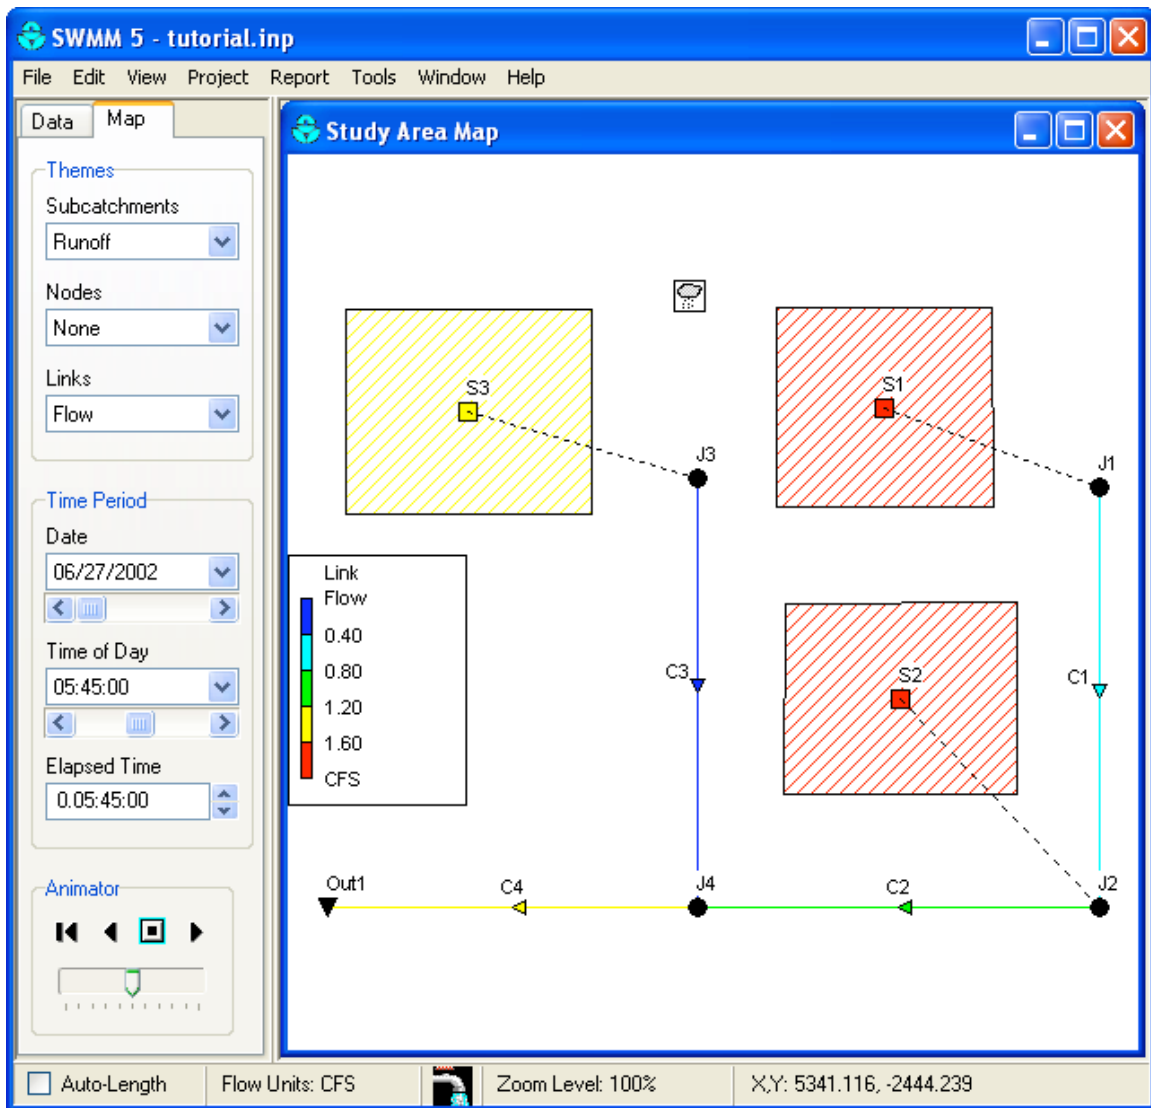

Figure 2-11. Example of viewing color-coded results on the Study Area Map.
- The Node Flooding Summary table (not shown in Figure 2-11) indicates there was internal flooding in the system at node *J2*⁹.
- The Conduit Surge Summary table (also not shown in Figure 2-11) shows that Conduit *C2*, just downstream of node *J2*, was surcharged and therefore appears to be slightly undersized.
2. Select the variables to view for Subcatchments, Nodes, and Links from the dropdown combo boxes appearing in the Themes panel. In Figure 2-11, subcatchment runoff and link flow have been selected for viewing.
6. The Date / Time of Day / Elapsed Time controls on the Map Browser can be used to move through the simulation results in time. Figure 2-11 depicts results at 5 hours and 45 minutes into the simulation.
7. You can use the controls in the Animator panel of the Map Browser (see Figure 2-11) to animate the map display through time. For example, pressing the  button will run the animation forward in time.